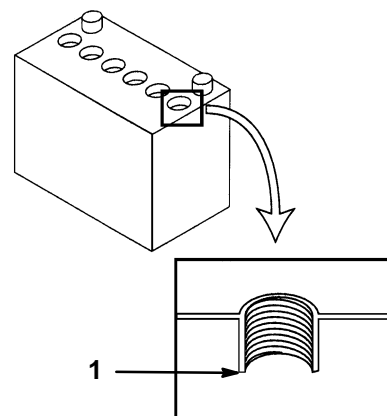

Figure 49
3. Lift off the cell cover to see into the cells. The electrolyte must be up to the lower part of the tube (Fig. 49). Do not allow the electrolyte to get below the plates.
2. Lift off the cell cover (Fig. 49).
3. Slowly pour distilled water into each battery cell until the level is up to the lower part of the tube (Fig. 49).